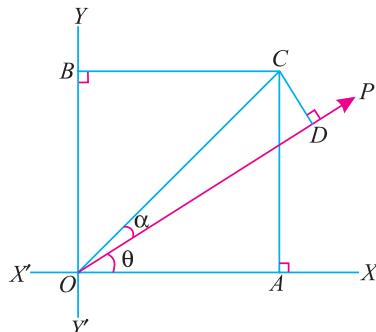

Fig. 16.1. Principle of virtual work.
**Proof.** Consider a body at  $O$ , subjected to a force  $P$  inclined at angle  $\theta$  with  $X$ - $X$  axis as shown in Fig. 16.1.
Now consider the body to move from  $O$  to some other point  $C$ , under the action of the force  $P$ , such that the line  $OC$  makes an angle  $\alpha$  with the direction of the force. Now draw  $CA$  and  $CB$  perpendiculars to  $OX$  and  $OY$  respectively as shown in Fig. 16.1.